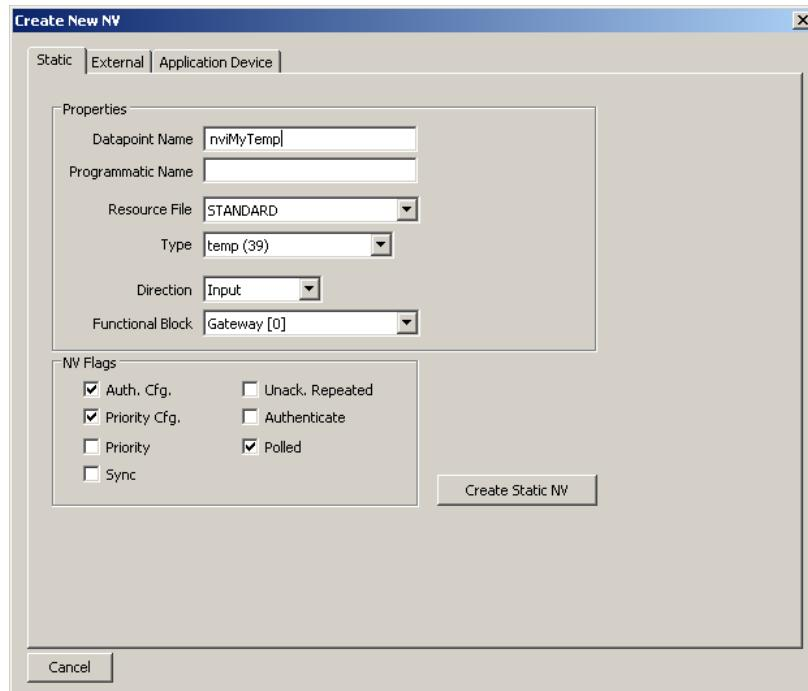

Figure 109: Create a static NV manually.
2. Right-click in the data point list and select **New Datapoint...** in the context menu. This opens the NV creation dialog as shown in Figure 109.